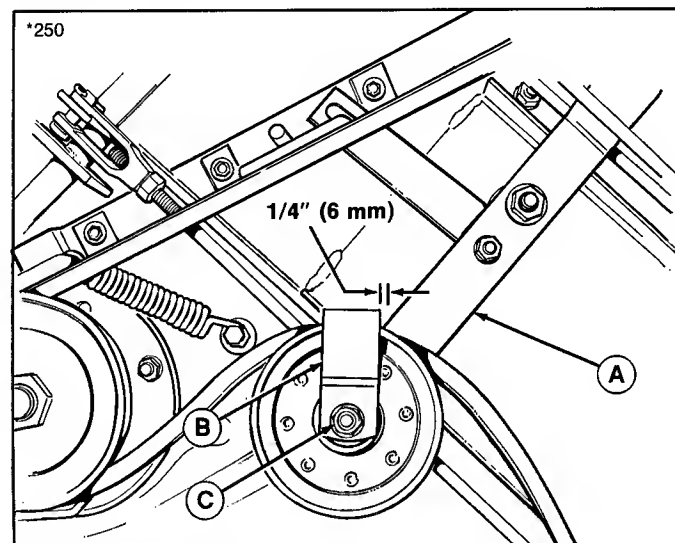

Figure 36. Idler Pulley Belt Guide
The idler pulley belt guide is correctly adjusted when its edge is 1/4 inch (6 mm) from the rear edge of the idler arm (figure 36). If not, loosen the nut (C) and move the belt guide. Tighten the nut and recheck the measurement.